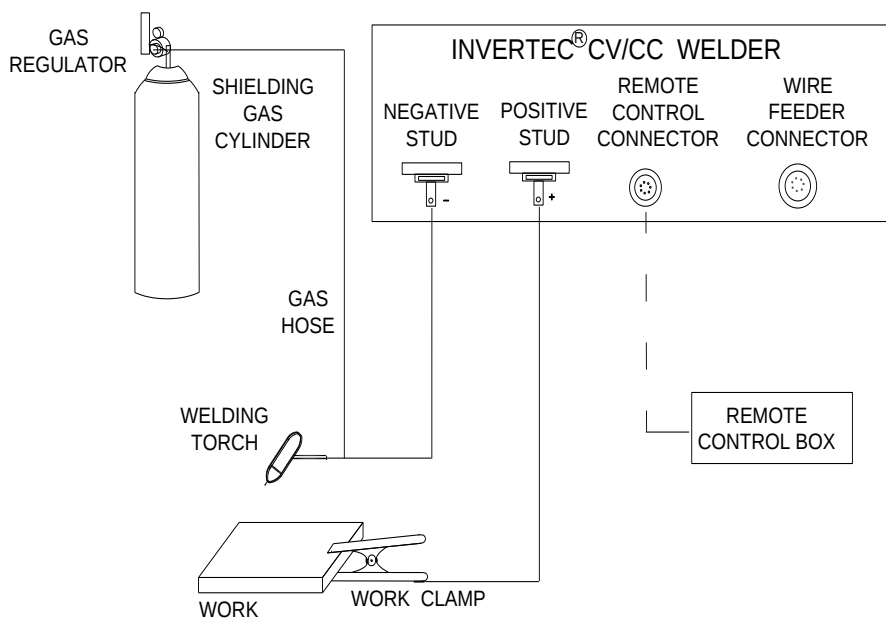

FIGURE A.5
3. GTAW PROCESS (CC MODE) CONNECTION (FIGURE A.5)